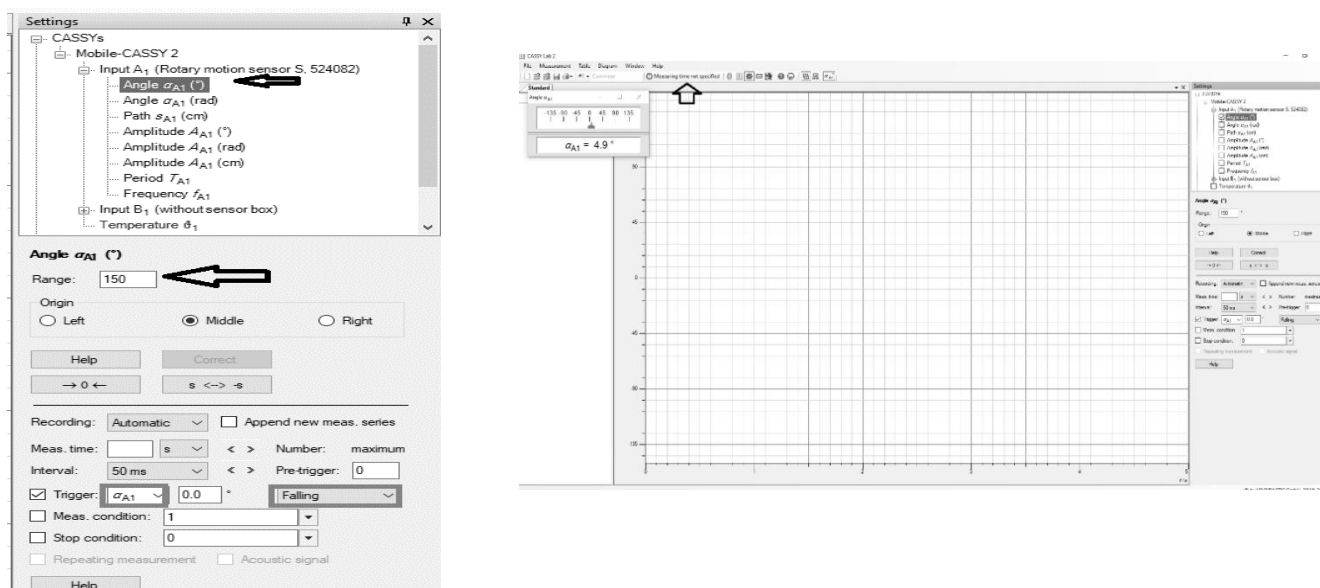

Fig. 15.4. Setting experiment parameters (left).
5. Set the parameters for the experiment as shown in Fig. 15.4. (left).
6. By rotating the V knob on the current source (2), set the current supplied to the damping coil electromagnet to 0 A.
7. Move the pointer of the pendulum to the limit position and let the pendulum swing until it comes to rest and at the same time start recording graph on the PC by clicking the bottom “Measuring time” as shown in Fig. 15.4. (right).